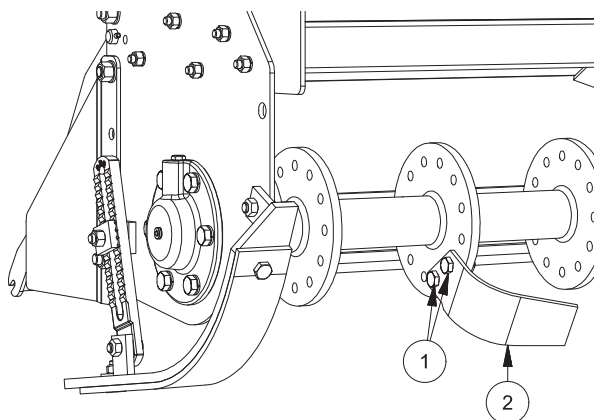

FIG. 18
- Loosen the two bolts (1, “Fig. 18”).
- Remove the hoe (2)